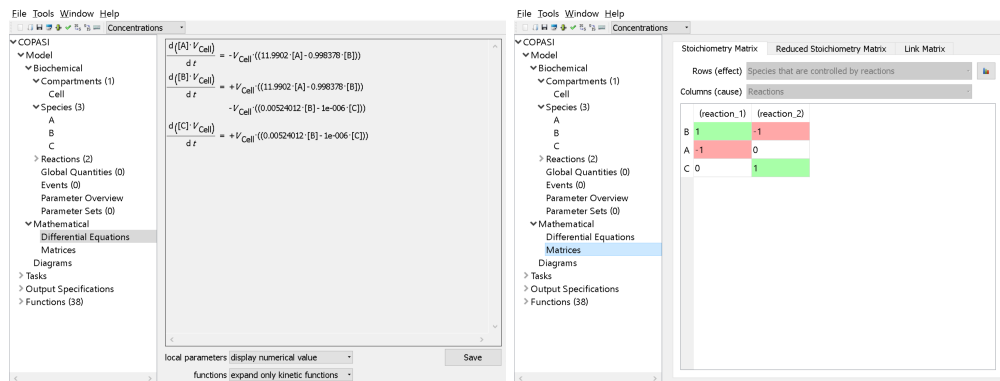

Figure 6: Mathematical model visualization
2.1 Model Visualization-Figure 6